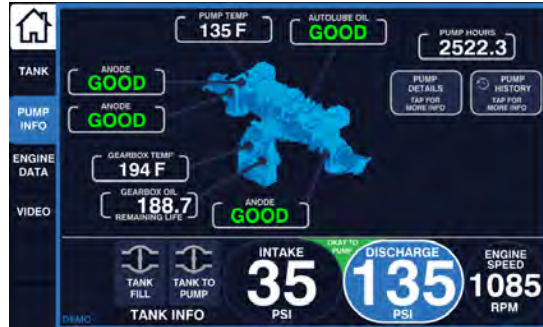

Figure 63. Indication Of Good Smart Anode
- On SAM Pump Controller, Pump Info tab, verify new anode reports **GOOD**. See Figure 63.